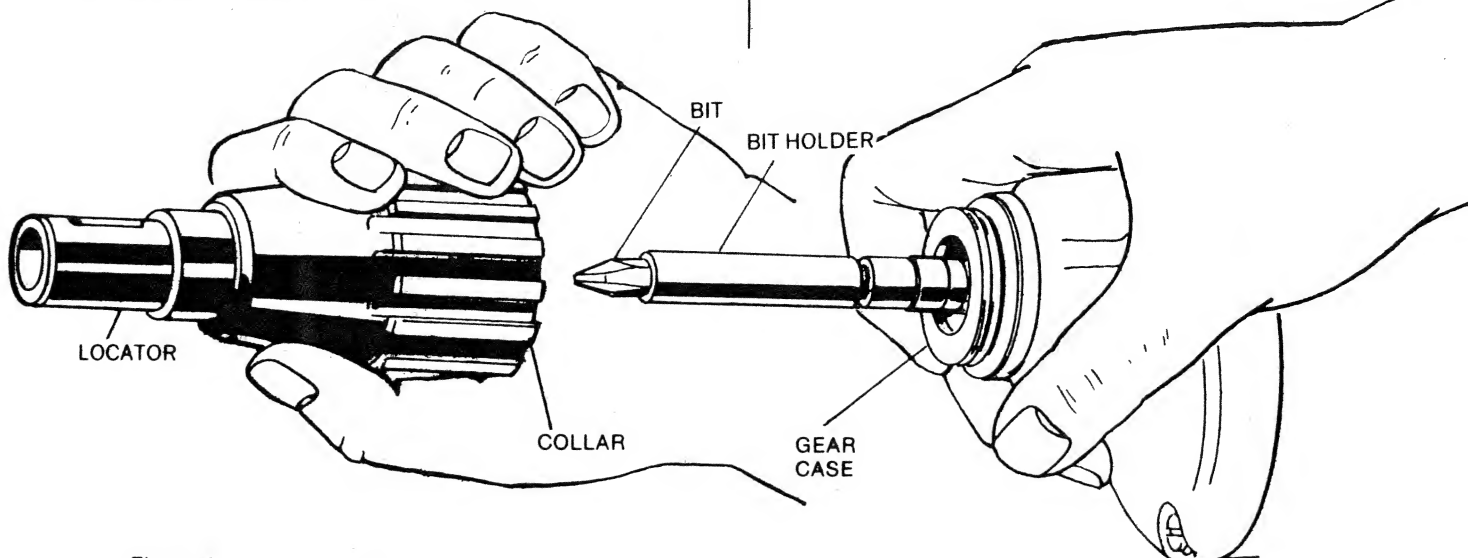

Figure 4
## ACCESSORY ASSEMBLY & ADJUSTMENT FOR DRYWALL UNITS (Fig. 4)
2. Adjust clutch setting. See Fig. 4.